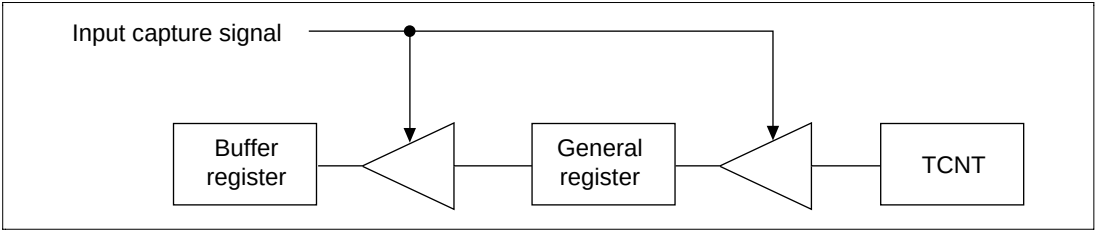

Figure 12.18 Input Capture Buffer Operation
**When TGR Is an Input Capture Register:** When an input capture occurs, the timer counter (TCNT) value is transferred to the general register (TGR), and the value that had been held up to that time in the TGR is transferred to the buffer register (figure 12.18).